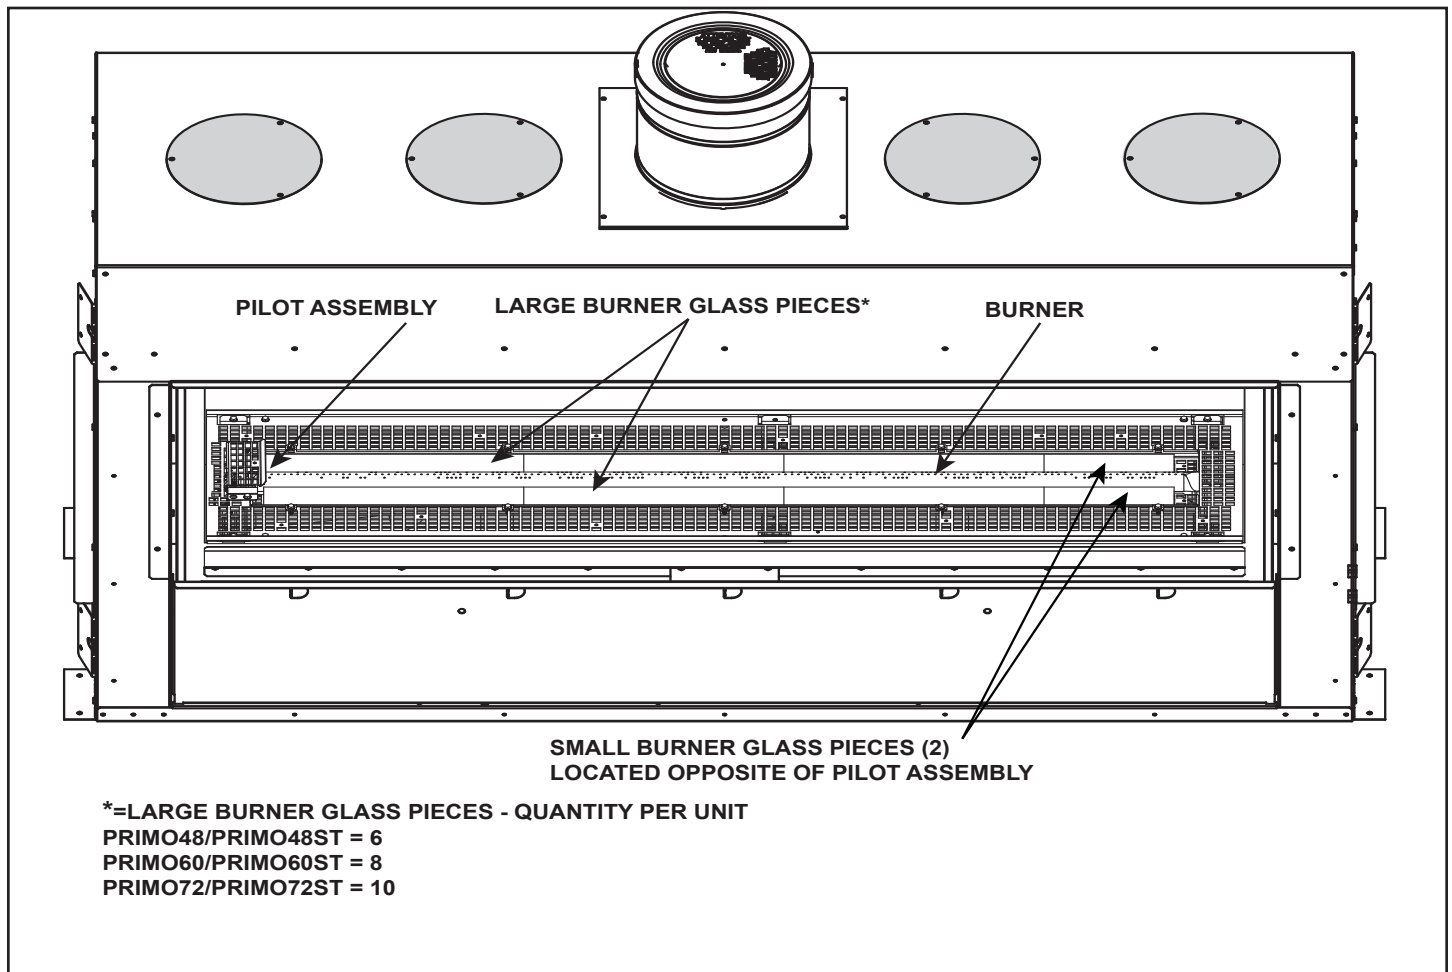

Figure 6.18. Burner Glass Installation
2. Position the burner glass tight to the burner tube as shown in Figure 6.18.